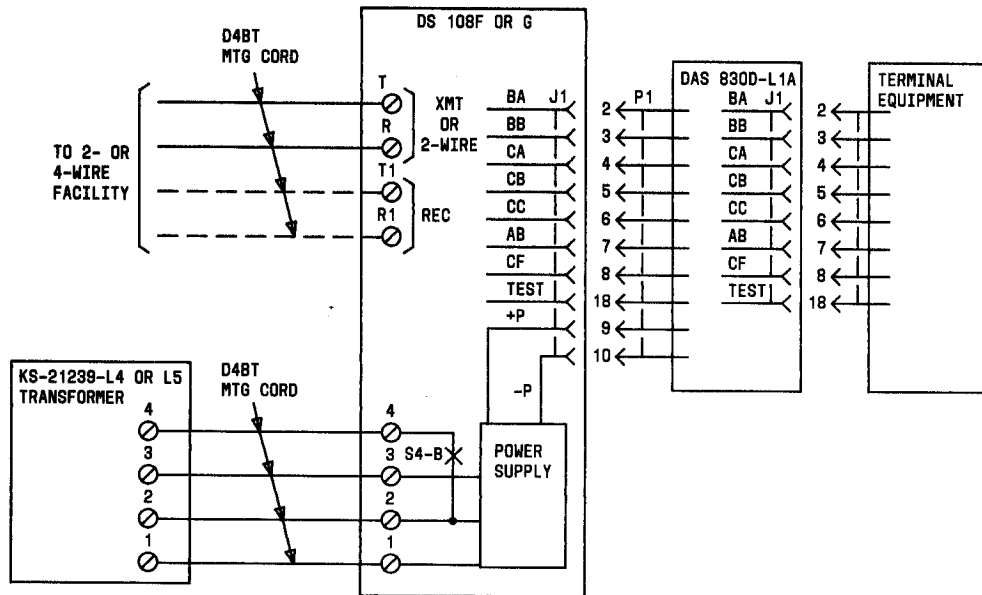

Fig. 20—DS 108F or G With DAS 830D-L1 Connection Diagram
- Fig. 20—DS 108F or G with DAS 830D-L1 Connection Diagram.